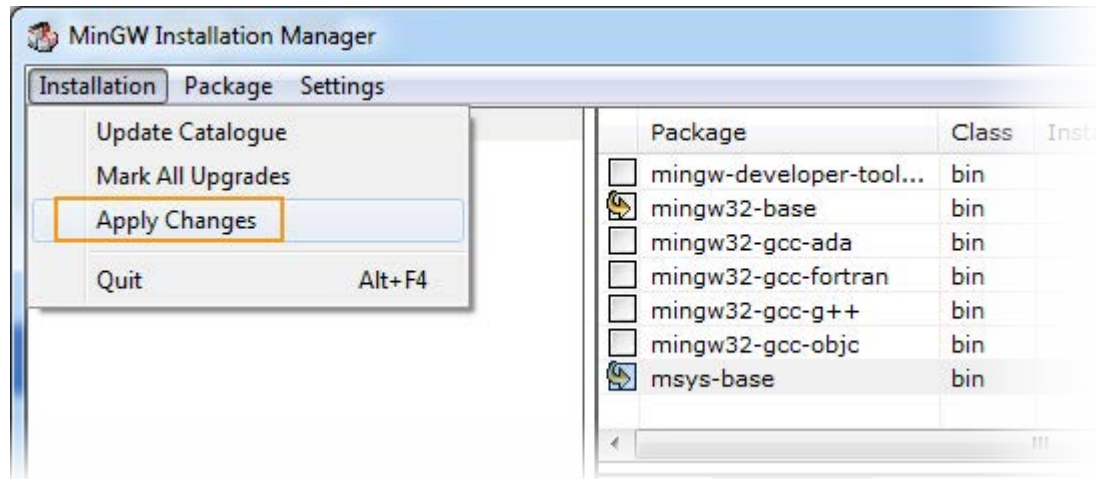

Figure 5. A basic MinGW installation
- 6) Click **Apply Changes** from the **Installation** menu (see Figure 5).